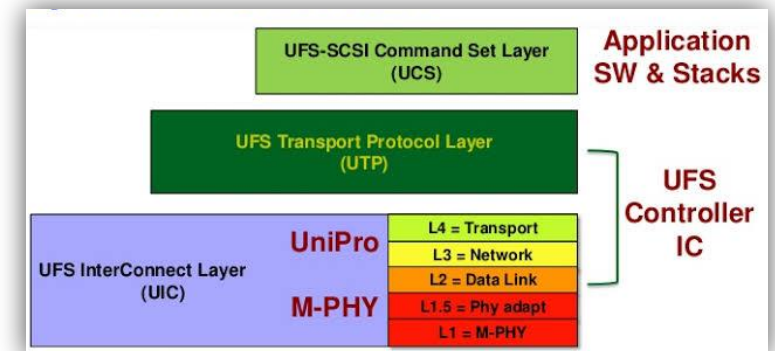

Figure 2. Layered Architecture of UFS and MIPI UniPro (High Speed Link).
- For showing our proposed work, We are taking MIPI UniPro (High Speed Link) as a case study which is act as interconnect layer for Universal Flash storage(UFS) as shown in Figure 2.